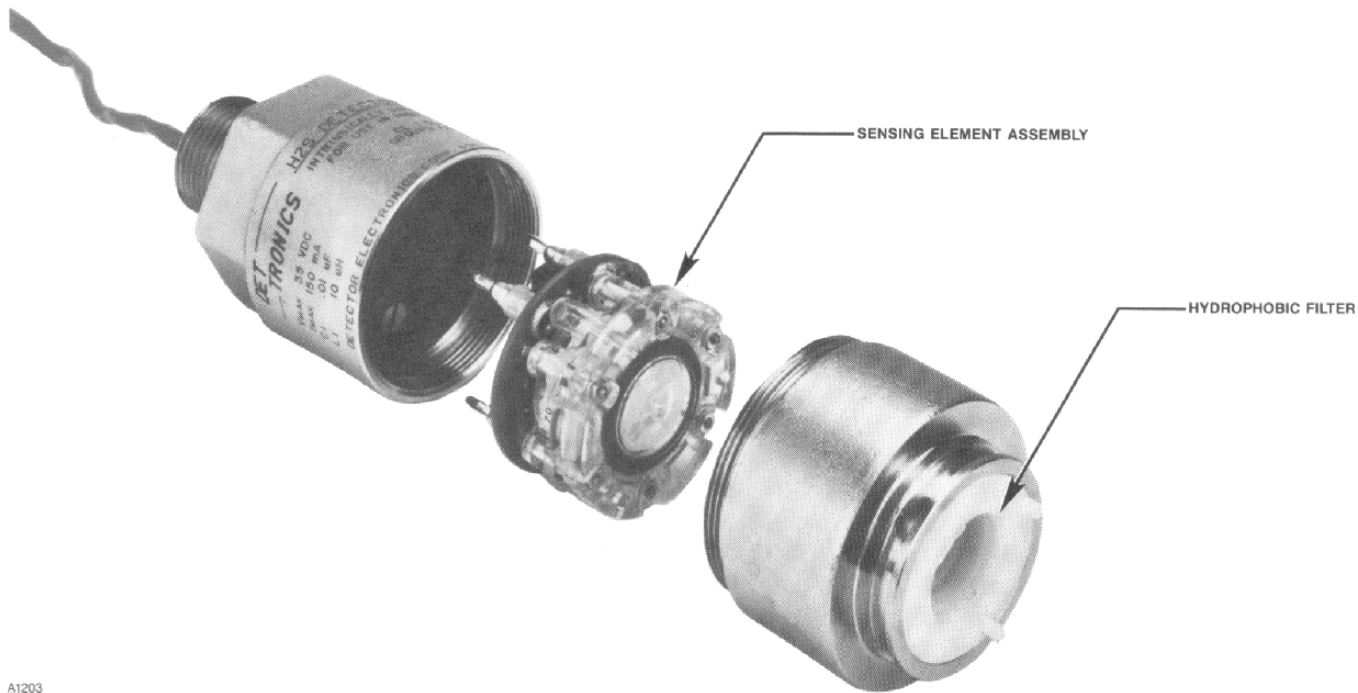

Figure 24—C7064E Sensor
4. Remove the cap from the sensor housing. See Figure 24. (There is no need to remove the C7064E from the transmitter junction box.)